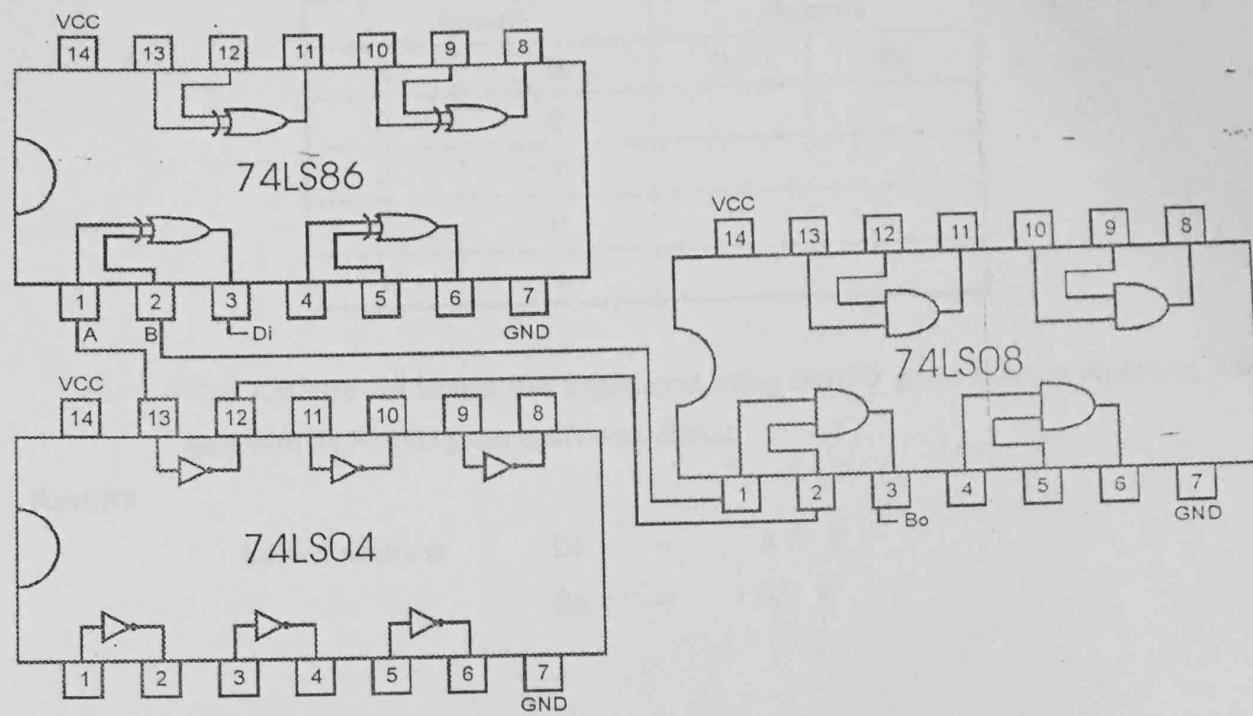

Figure 11.2
4. Wire the circuit according to the diagram shown in figure 11.2.